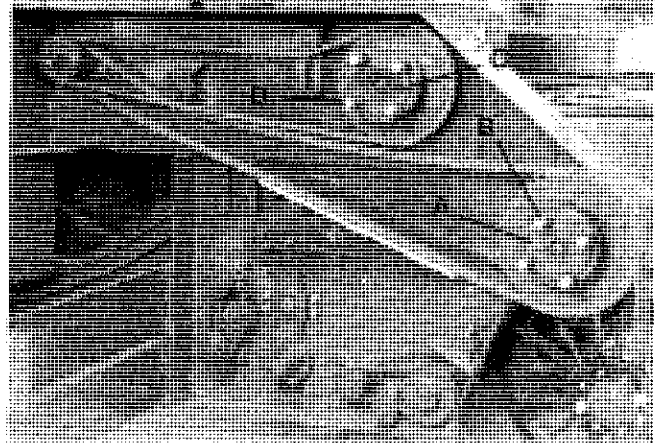

FIGURE 22 - RIGHT HAND DRIVES
The paddle shaft is protected by a slip clutch (A) (see figure 22). The four (4) springs (B) set the tension of this clutch. The setting recommended is  $2\frac{3}{8}$ " actual
The wheel elevator is protected by a slip clutch (C) (see figure 22, page 18). The four (4) springs (D) set the tension of this clutch. The setting recommended is 2 3/8" actual length of springs. Be sure all four (4) springs are the same length. Keep jaws free of grease.